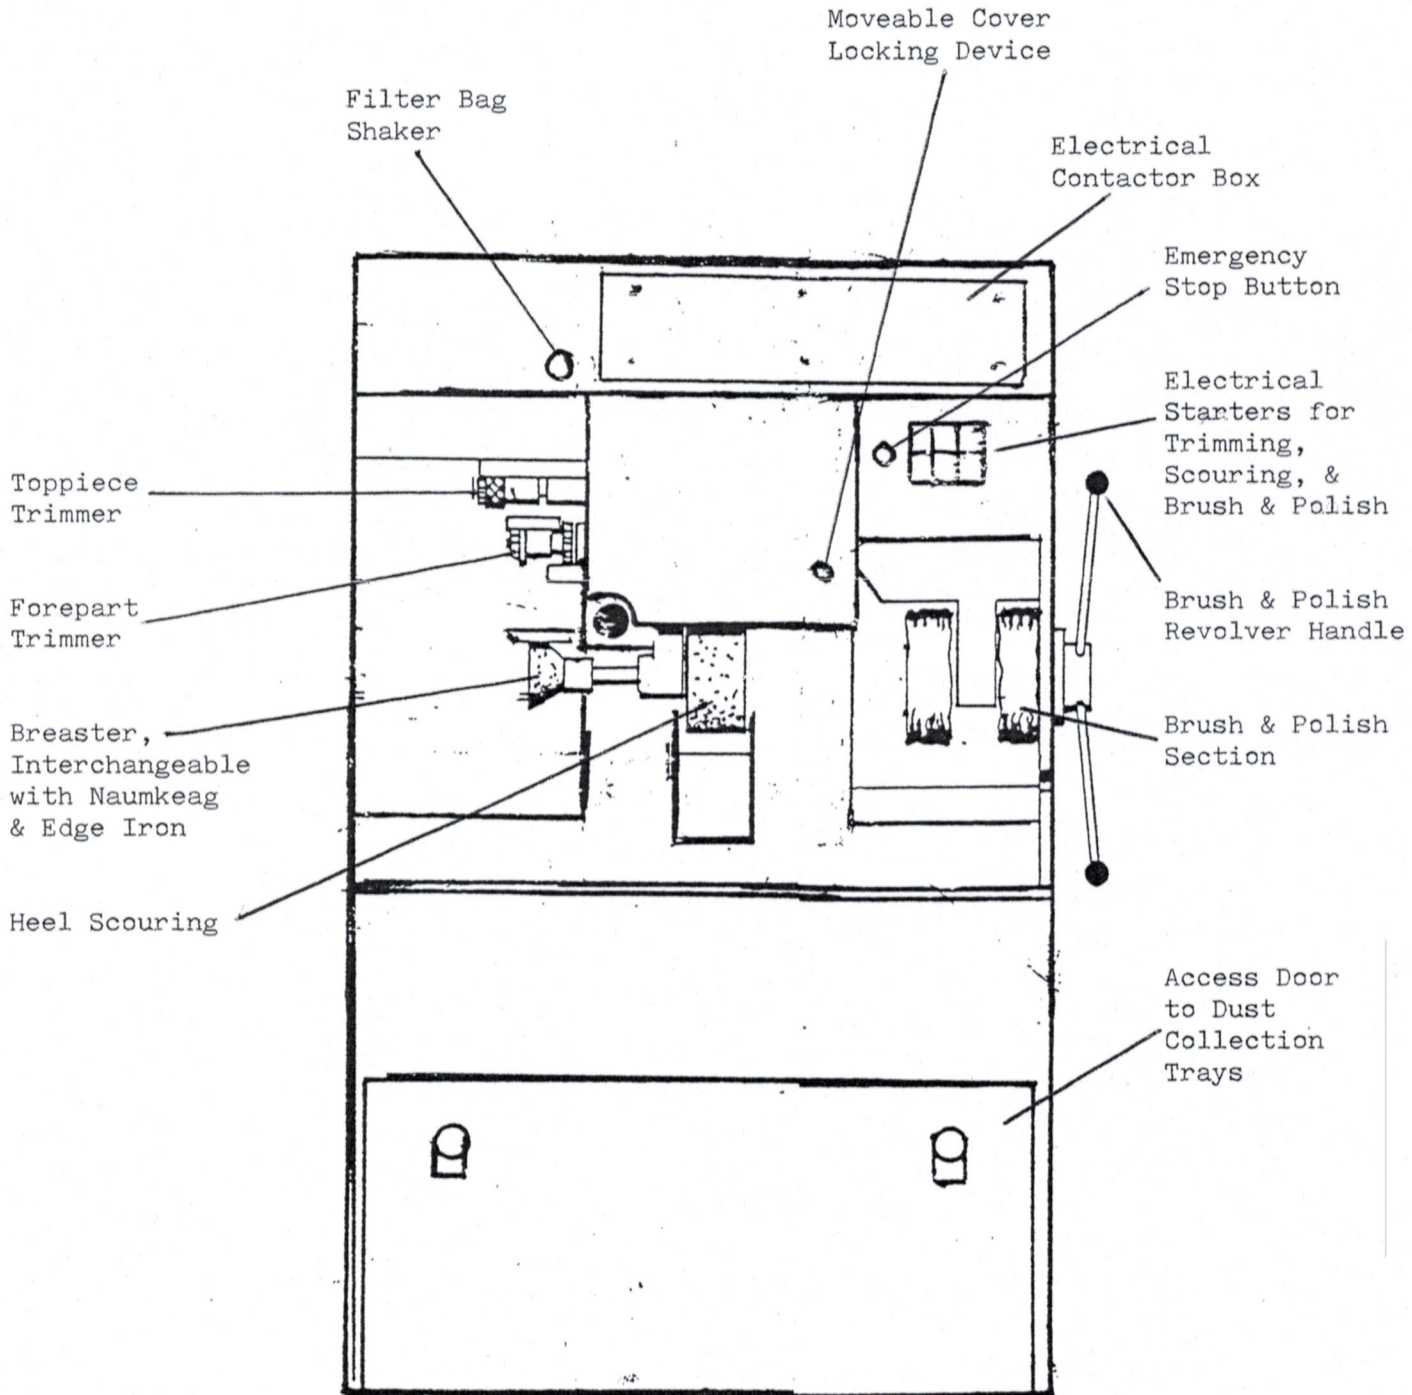

Fig. 1
5.2 The machine is generally as fig. 1